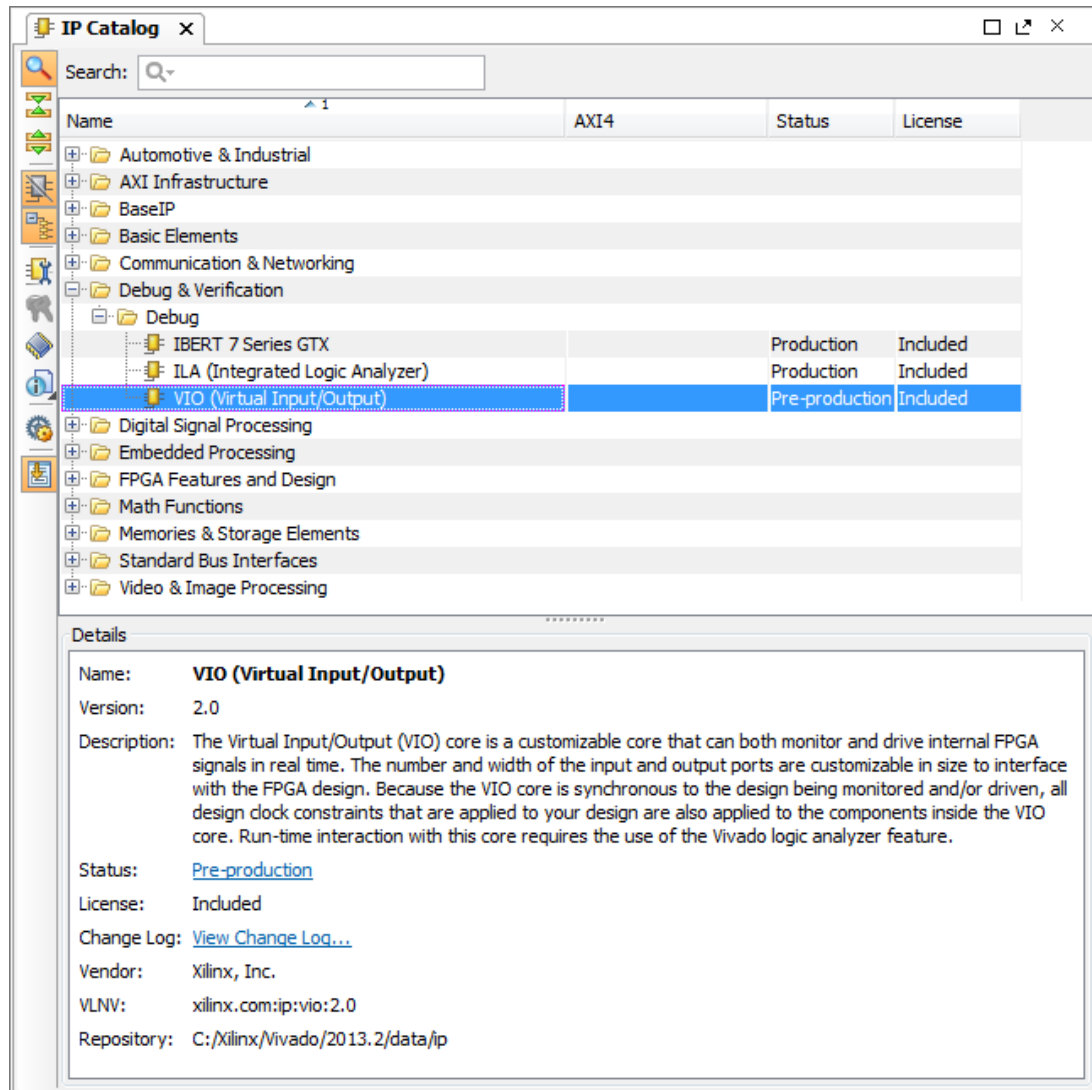

Figure 4-1: VIO Core in Vivado IP Catalog
The VIO core can be found in /Debug & Verification/Debug/ in the Vivado IP Catalog (Figure 4-1).
3. Double-click **VIO** to bring up the VIO Customize IP dialog box (Figure 4-1).